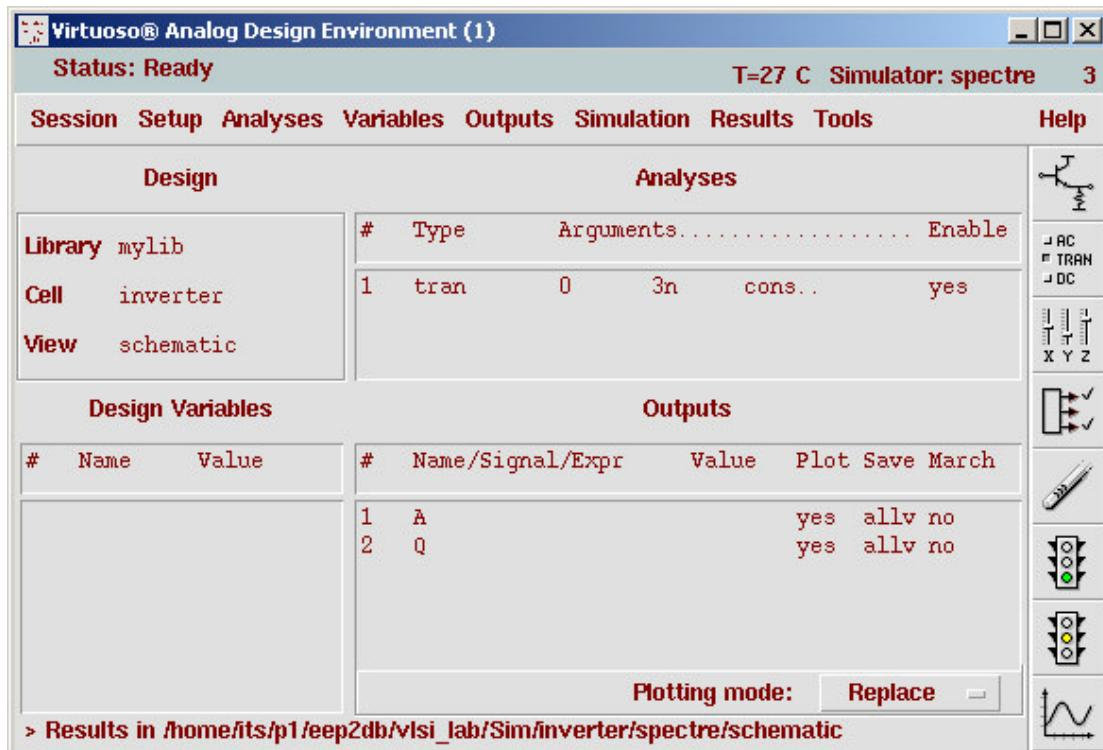

Figure 16. Analog Design Environment Ready for Simulation
1. In the **Analog Design Environment** window, click **Outputs, To Be Plotted**, then **Select on Schematic**. Click input **A** then output **Q** in the **Virtuoso Schematic Editor**. Your **Analog Design Environment** should now look like that in Figure 16.